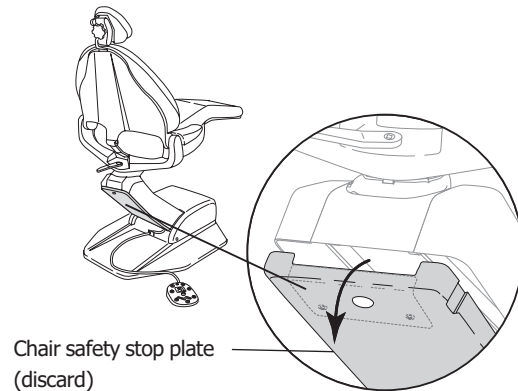

Figure 2
2. Remove and discard the chair safety stop plate (see Figure 2).